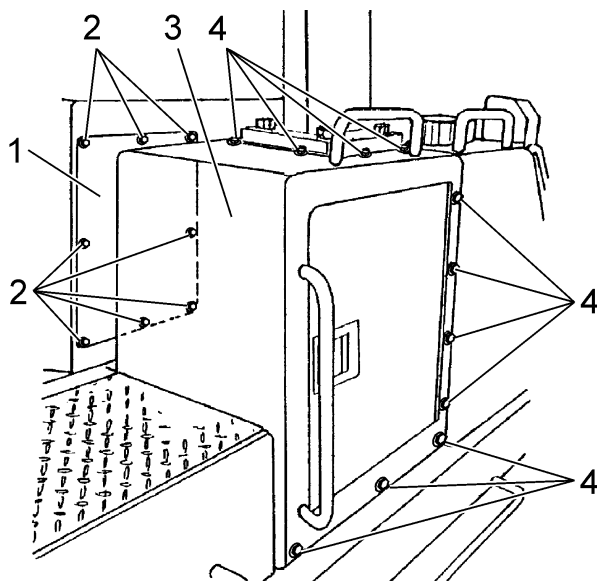

Fig. 7C.94. Disassembly Access Cover to Drive Train Control Valve
2. Disconnect the electrical harness from the filter base (3, Fig. 7C.95). Unscrew bolts (4) mounting filters bracket (1) to ROPS bracket and allow the bracket (1) with filters (2) to be supported by the hoses.
3. Unscrew bolts (2, Fig. 7C.94) and remove access cover (1) in order to obtain access to mounting points of the drive train lock solenoid valve.